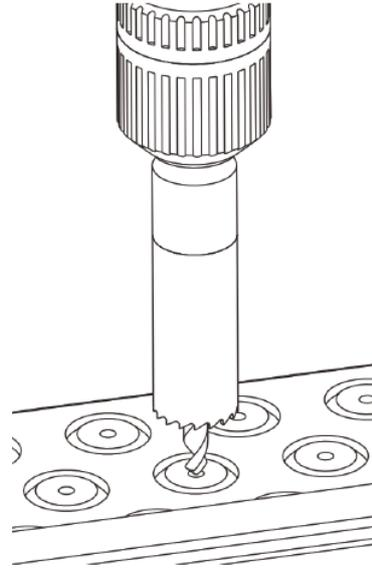

Figure 17. Cut Cable entry holes
- If the panel is being wall mounted then cut out the required number of cable entry holes in the back using a 20mm hole saw with pilot drill bit as shown in Figure 17. Fit the glands to the back box and pull through the required cables.